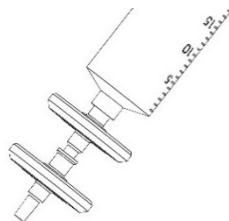

Figure 2: Series connection of 0.45 µm pre-filter and 0.22 µm main filter
- For filtering cell culture suspensions, transfer the sample into a sterile centrifuge tube and centrifuge at 1,000–2,500 × *g* for 10 minutes. Use a 0.45 µm filter as a pre-filter before the 0.22 µm filter in a series connection (Fig. 2).